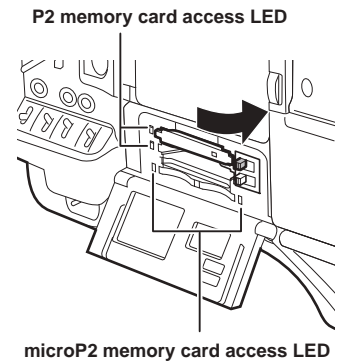

Fig. 3
- After a card is inserted, the P2 card access LED for the appropriate slot indicates the status of the P2 card. (Fig. 3) (page 52)